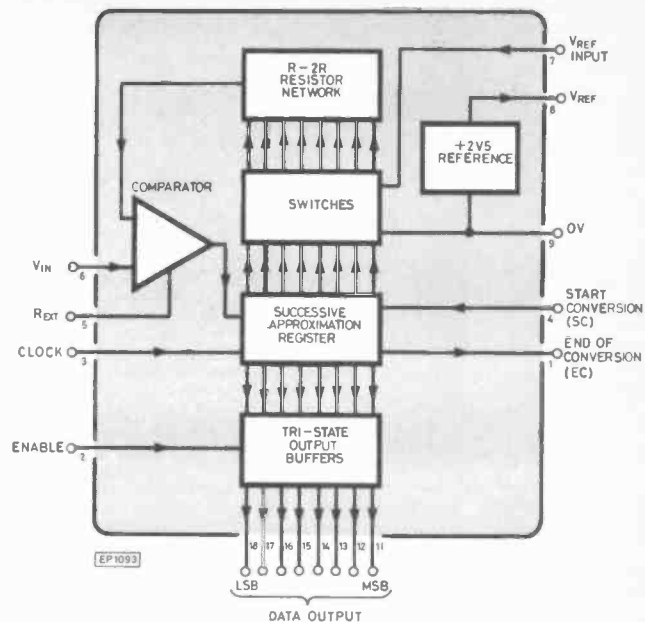

Fig. 12. Internal architecture of the ZN427 successive approximation A to D converter
The internal architecture of the ZN427 is shown in Fig. 12. The principal internal elements of the ZN427 are; a high speed comparator, a successive approximation register, a switch array, an R-2R resistor network, an output buffer array, and a 2.5V precision voltage reference. When a low-to-enable start conversion (SC) pulse arrives, the most significant bit is set to a 1 and all the other bits are set to 0 regardless of their previous state. The analogue output from the R-2R ladder network will then be exactly half the reference input, V_{REF} . The input voltage, V_{IN} , is then compared with this value and a decision made on the next falling clock edge. The MSB will be set to 0 if $0.5V_{REF} > V_{IN}$ or kept at 1 if $0.5V_{REF} \leq V_{IN}$. The second most significant bit is also set to 1 on the same falling edge and, on the subsequent falling clock edge, a similar decision is made concerning the second most significant bit. The process continues until all eight bits have been examined such that, on the ninth consecutive falling clock edge after receipt of the start conversion (SC) pulse, an end of conversion (EC) signal is generated which indicates that the digital output from the converter is a valid representation of V_{IN} . The digital output data remains latched until the next SC pulse arrives. An output enable (EN) is provided so that data may be read from